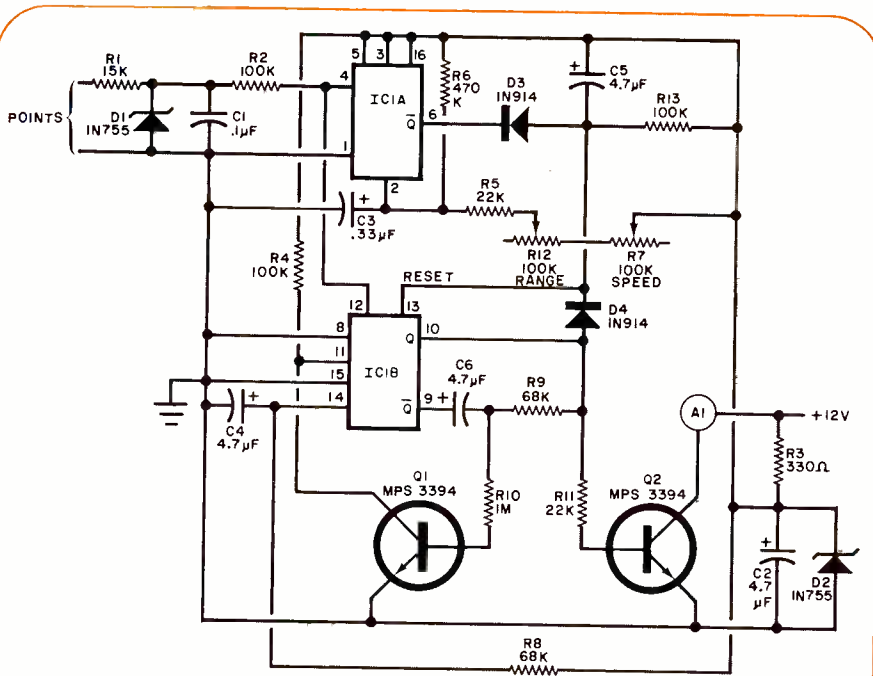

Fig. 1. Frequency discriminator IC1A triggers IC1B to sound alarm when input frequency from distributor points exceeds predetermined limit.
**Circuit Operation.** A schematic diagram of the Cruisealert is shown in Fig. 1. Components  $R1$ ,  $R2$ ,  $C1$ , and  $D1$  both filter and clip the raw signal coming from the engine's distributor contacts. Resistor  $R1$  and capacitor  $C1$  form a single-stage low-pass filter that has a time constant of about 1.5 ms, which is long enough to provide smoothing for the transient, oscillatory-like waveforms present at the points. The frequency range is between 40 and 170 Hz, which approximately corresponds to a four-cylinder engine at a road velocity of about 30 mph and an eight-cylinder engine at approximately 70 mph.